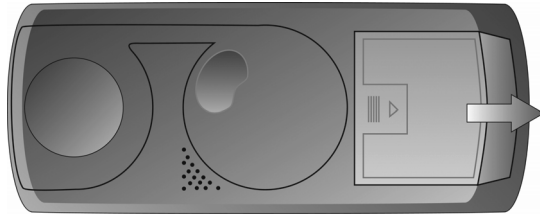

Figure 33. Removing the battery compartment cover.
4. Press down lightly on the battery compartment cover and push the cover in the direction of the arrow, then rotate the cover upwards (Figure 33).